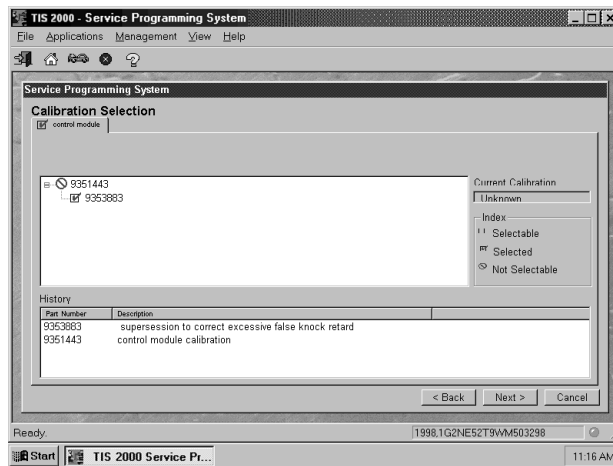

FIGURE 8-25. Control Module Folder on Calibration Selection Screen
- Vehicles with PCMs display a screen similar to the one shown in Figure 8-25.